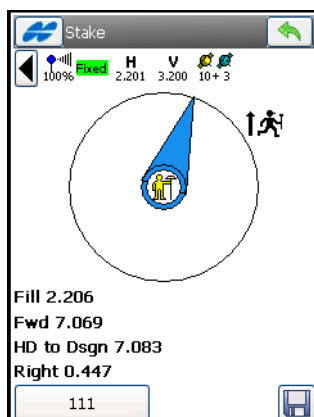

Figure 9-35. Stakeout
5. For GPS+: use the information on the **Stakeout** screen for finding the target. Tap  after the target is close enough to the design point (Figure 9-35).
6. For TS: sight the prism. In the **Stakeout** screen, tap the  button to check the position. Once the position is close enough to the design point, tap  to store it (Figure 9-35).